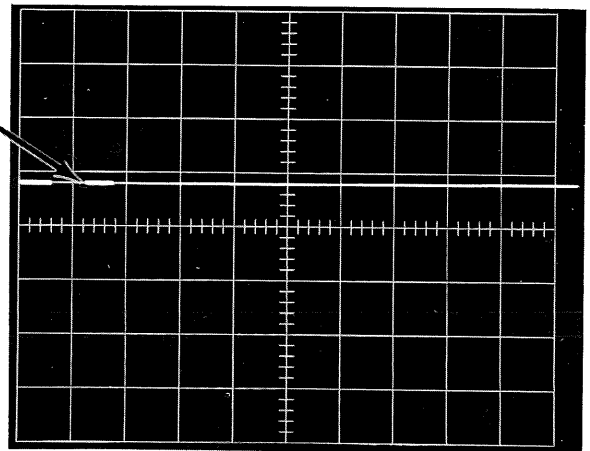

Figure 2-15
6. Adjust the B 0% Zone Width so the 0% zone is roughly 0.5 divisions wide. See Figure 2-15.